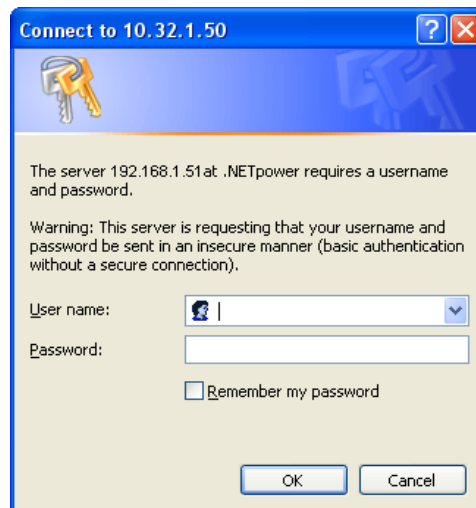

Figure 6-43: Internet Protocol Connection Authentication Box
- The Internet Protocol Connection Authentication Box shown in Figure 6-43 will appear.